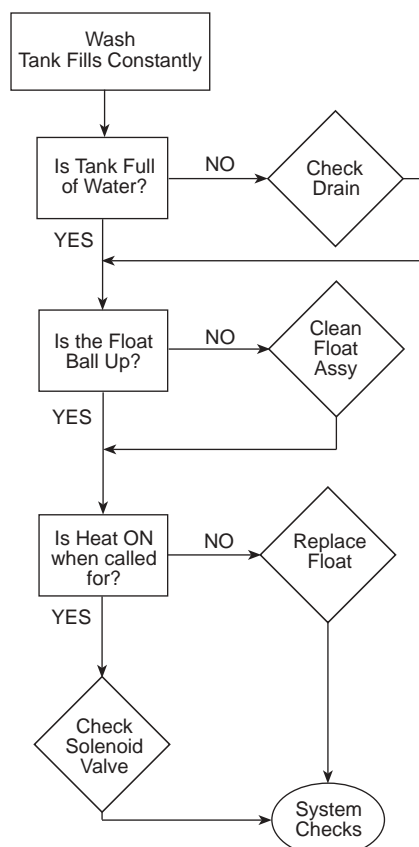

Figure 15
5. Refer to the float switch troubleshooting chart below (Fig. 15) for a quick guide to evaluating float switch problems.